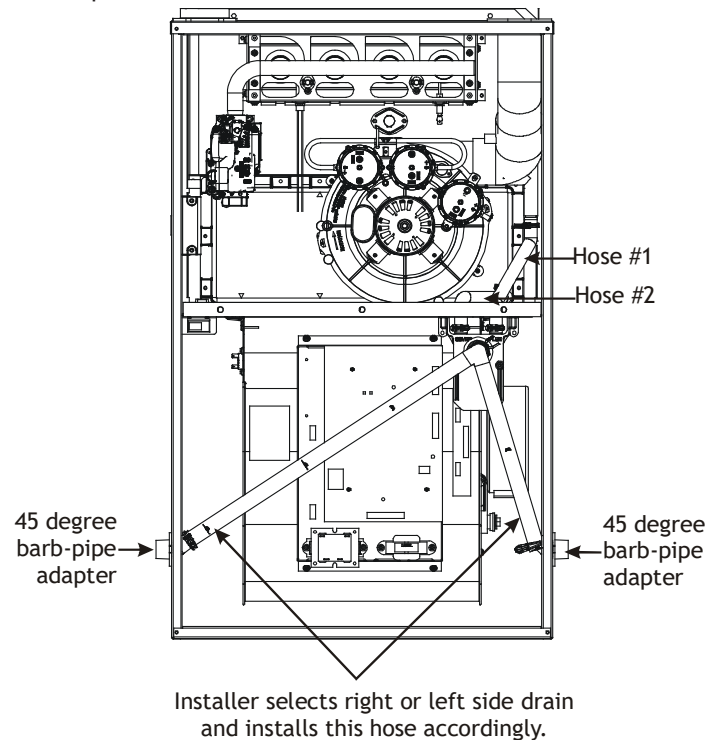

Figure 31
1. Locate and Install the 45° pipe / hose drain coupling from the outside of the cabinet (barbed end goes in the cabinet) through hole in the right side of the cabinet and secure with two field supplied #8 self-tapping screws (see Figure 31).
1. Install the 45 degree pipe / hose drain coupling from the outside of the cabinet (barbed end goes in the cabinet) through the hole in the left side of the cabinet and secure with two field supplied #8 self-tapping screws (see Figure 31).